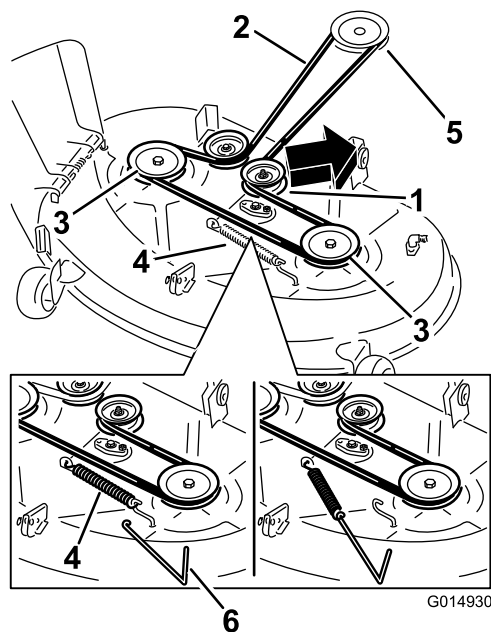
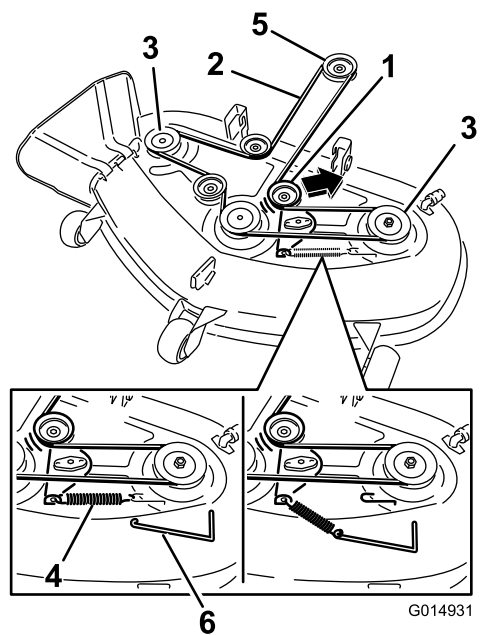

Figure 74
Figure 75
6. Using a spring-removal tool, (Toro Part No. 92-5771), remove the idler spring from the deck hook to remove tension on the idler pulley, and roll the belt off of the pulleys (Figure 74 and Figure 75).
7. Route the new belt around the engine pulley and mower pulleys (Figure 75).
8. Using a spring-removal tool, install the idler spring over the deck hook, and place tension on the idler pulley and mower belt (Figure 74 and Figure 75).